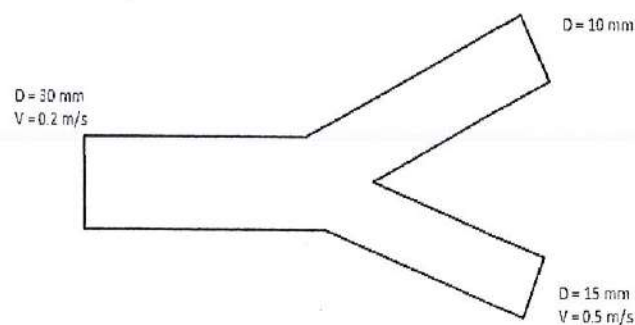

Figure 3 / Rajah 3
b) **Figure 3** shows Oil flows in a circular pipe with a diameter of 30 mm with a velocity of 0.2 m/s. Then the pipe is split into two. One of the branches is 10 mm in diameter while the other branch has a diameter of 15 mm and flow velocity of 0.5 m/s. Determine the flow velocity in the pipe with the diameter of 10 mm.